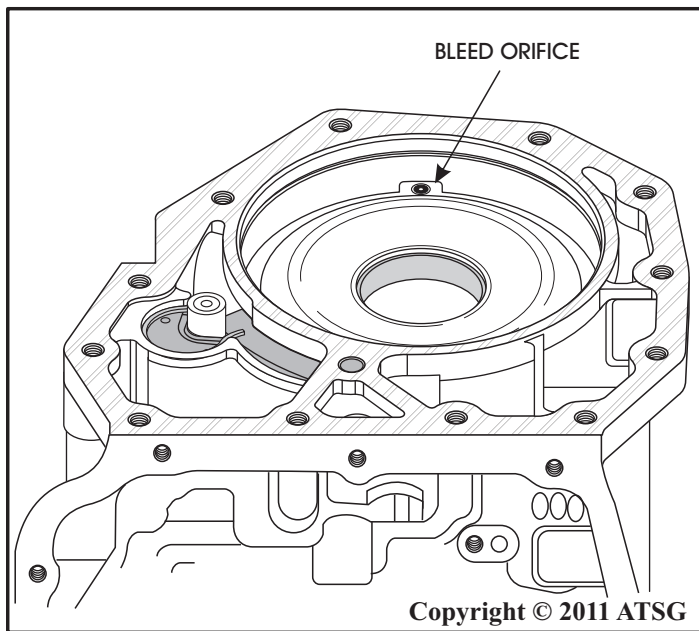

Figure 141
6. You should be able to see the low/reverse clutch housing bleed orifice at the notch in rear of the case, as shown in Figure 141.